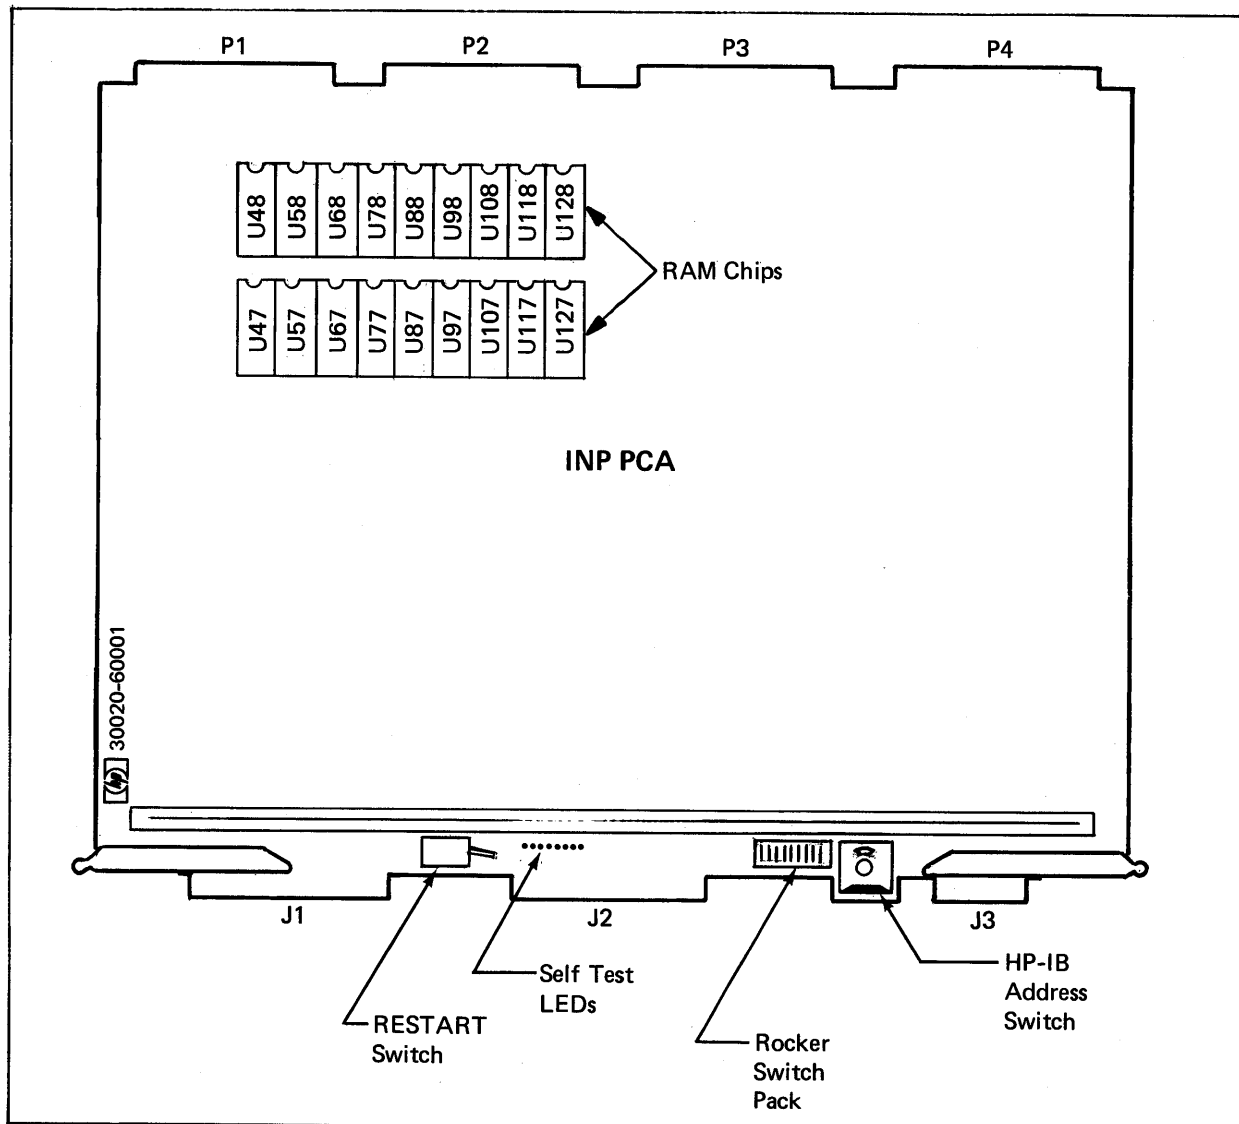

Figure 5-1. Location of Pertinent Components on INP PCA
As each test is successfully completed, the next test in the sequence is started until the self-test cycle has been completed. The red LED indicators (located on the edge of the INP PCA board, beside of the self-test initiating RESTART switch, as shown in figure 5-1) wink on and off during the test cycle (approximately 2 seconds in duration) and stop in a pattern that shows the test results. If LEDs 0 and 7 (the ones at each end of the array) are the only ones lighted, all tests have been completed successfully. Any other pattern indicates a failure. Table 5-1 (under "Troubleshooting") shows the meanings of various LED patterns.
The self test checks most of the circuitry of the INP PCA board. If, upon completion of the self test, the self-test LED indicator lights (figure 5-1) are displaying 0 and 7 (only the two lights at each end are lighted), there is no detectable hardware malfunction within the INP PCA board. If any other combination of lights is being displayed or if you still suspect a malfunction beyond the physical limits of the PCA boards, call your Hewlett-Packard Customer Engineer (CE).
- b. Before initiating any other action, open the computer card cage door and observe the INP self-test LEDs (see figure 5-1 for the location of the LEDs). Note whether the LEDs are flickering or a static pattern is being displayed, and make a written record of which LEDs are lighted. This information may be needed later if the problem persists beyond the initial steps of troubleshooting.
- d. Press the manual RESTART switch (figure 5-1) to initiate the self test.
The Random Access Memory (RAM) chips are the only components on the INP PCA board that are field replaceable. (See figure 5-1 for their location on the board.) If troubleshooting procedures (such as use of the self test) indicate that a RAM chip is faulty, replace it as follows: